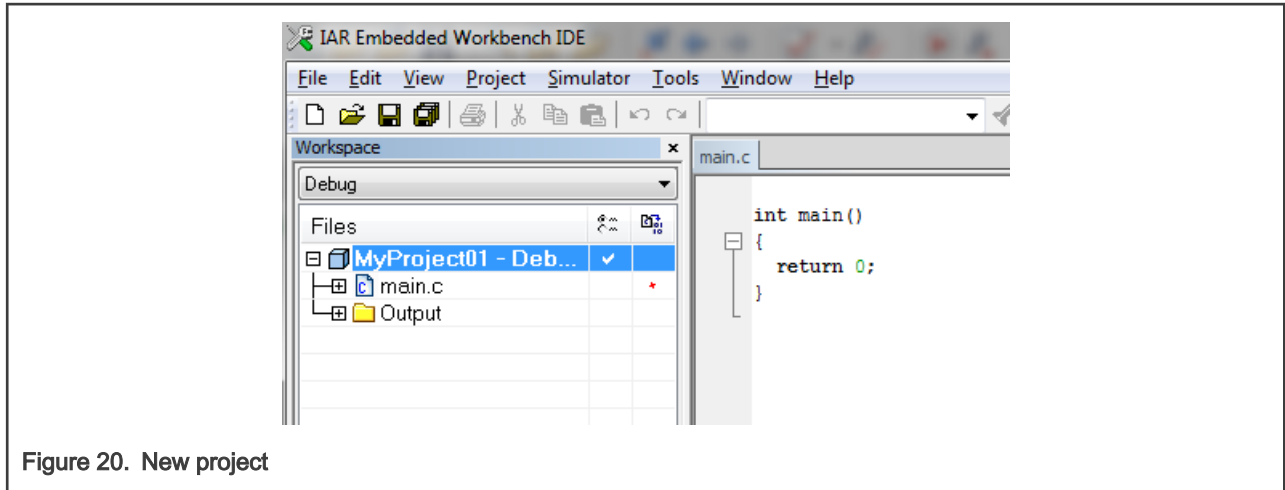

Figure 20. New project
- Navigate to the folder where you want to create the project, for example, C:\IARProjects\MyProject01. Type the name of the project, for example, MyProject01. Click Save, and a new project is created. The new project is now visible in the left-hand part of IAR Embedded Workbench. See Figure 20.